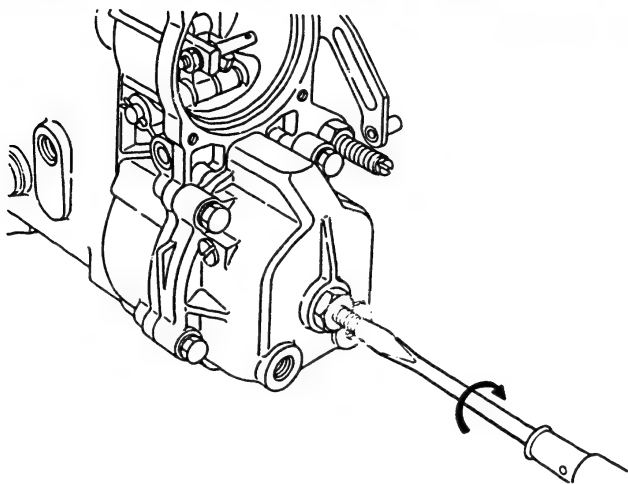

Fig. 33 Governor spring compression
1. Remove the cap (135) and gasket (134), and loosen the locknut (133).
2. Fully compress the governor spring (128) by turning the adjusting bolt (130). (Fig. 33)